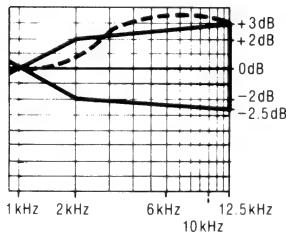
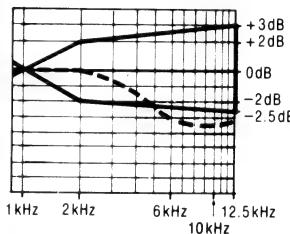
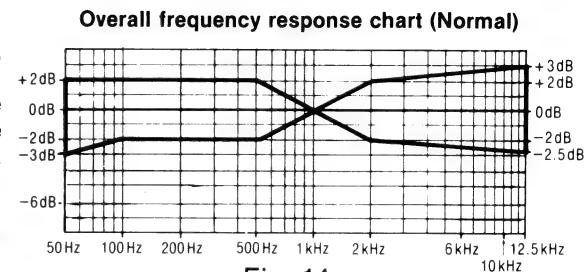

Fig. 15
Fig. 16
Fig. 14
6. Playback the signals recorded in step 5, and check if the frequency response curve is within the limits shown in the overall frequency response chart for normal tapes (fig. 14). (If the curve is within the charted specifications, proceed to steps 7, 8 and 9.)
When the curve exceeds the overall specified frequency response chart (fig. 14) as shown in fig. 15.
- 2) Repeat steps 5 and 6 for confirmation (Proceed to steps 7, 8 and 9 if the curve is now within the charted specifications as shown fig. 14.)
- 3) If the curve still exceeds the specifications (fig. 14), increase bias current further and repeat steps 5 and 6.
When the curve falls below the overall specified frequency response chart (fig. 14) as shown in fig. 16.
- 2) Repeat steps 5 and 6 for confirmation (Proceed to steps 7, 8 and 9 if the curve is now within the charted specification as shown fig. 14.)
- 3) If the curve still falls below the charted specifications (fig. 14), reduce bias current further and repeat steps 5 and 6.